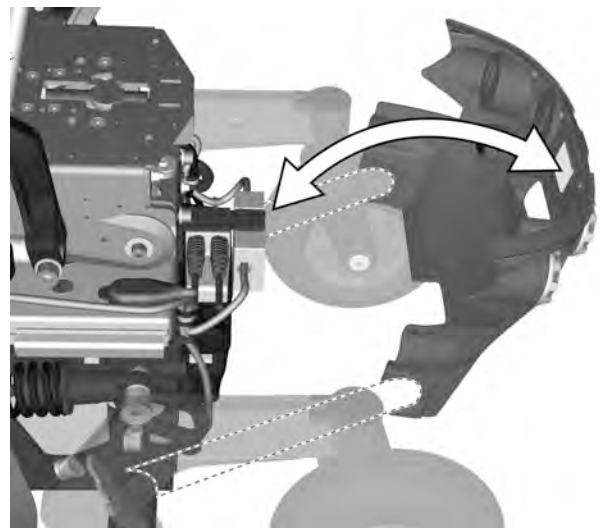

Figure 37. The chassis rear cover.
6. Refit the rear chassis cover on to the chassis. See fig. 37.